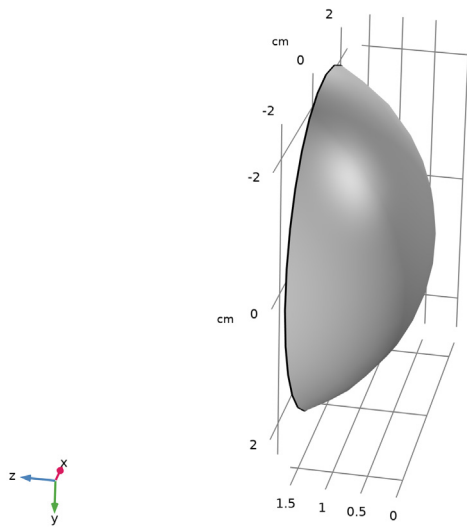

Figure 3: A plano-convex lens imported from the Ray Optics Module Part Library. When the focal length is short, the lens is very thick.
Start from a 3D cylindrical plano-convex lens from the Part Libraries of the Ray Optics Module (Figure 3). The effective focal length is set to 5.5 cm and the diameter to 5 cm. For such a short focal length (compared to the diameter), the lens is very thick, heavy, and expensive to make.
- 4 Click  **Build Selected**. Orient the view to match Figure 3.